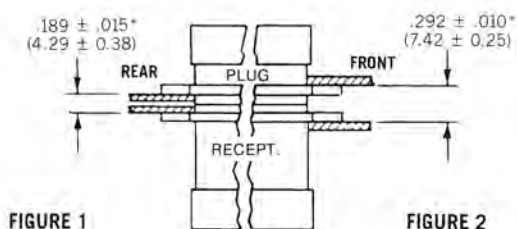

FIGURE 2
2. With both connectors front mounted, use #4-40 binder or pan head screws (Fig. 2).
8. With plug assembly rear mounted (float rivets) and receptacle assembly front mounted, use hardware from Figures 2 and 3.